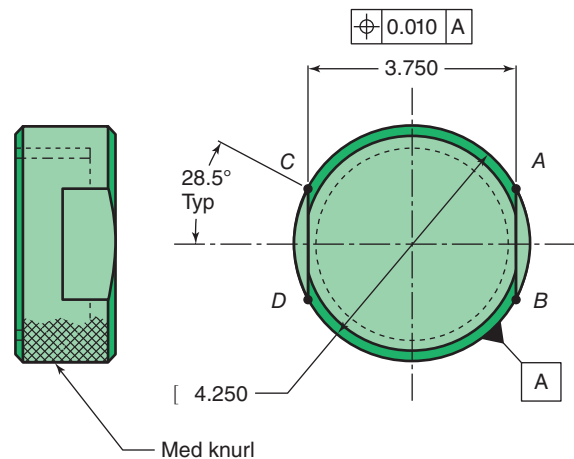

Figure 17-61 Inspection cap.
19. Figure 17-61 depicts a part requiring two wrench flats milled on the end of a round inspection cap. Would the coordinates be more efficient in Cartesian or polar? Explain. (LOs 17-2 and 17-4)
20. What are the absolute polar coordinates of points A, B, C, and D, at the ends of each wrench flat (Fig. 17-61)? (LO 17-4)